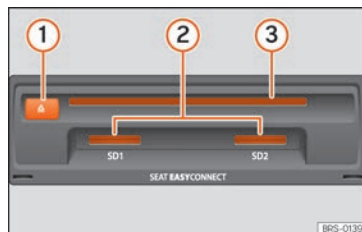

Fig. 216 Slots for data storage devices in the glove compartment.
- Push the CD or DVD into the DVD slot **»»» Fig. 216 ③** to the point where it is drawn in automatically. **»»**
Insert the compatible memory card, bevelled edge first and with the label face up (contacts face down), into slot  Fig. 216 2, until properly inserted.